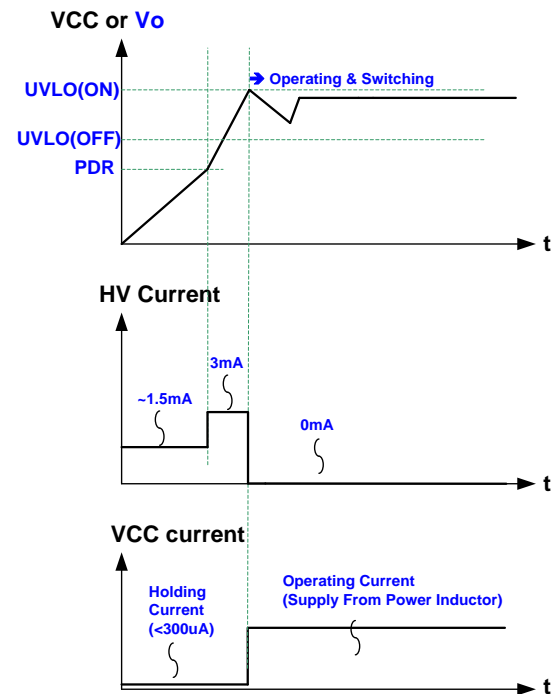

Fig. 11
Refer to Fig. 11, once VCC voltage rises up to reach the UVLO(ON) threshold, LD9010A starts switching to draw supply current for VCC from the inductor. At the same time, the ultra-high voltage startup circuit will also minimize the power loss in normal operation.